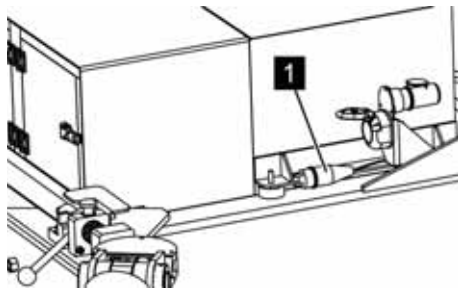

Fig. 42: Power connection
- Connect the plug (Fig. 42/1) to the extension cable (230V). Here, heed the maximum cable lengths (↪ Chapter 3 'Technical data' on page 43).